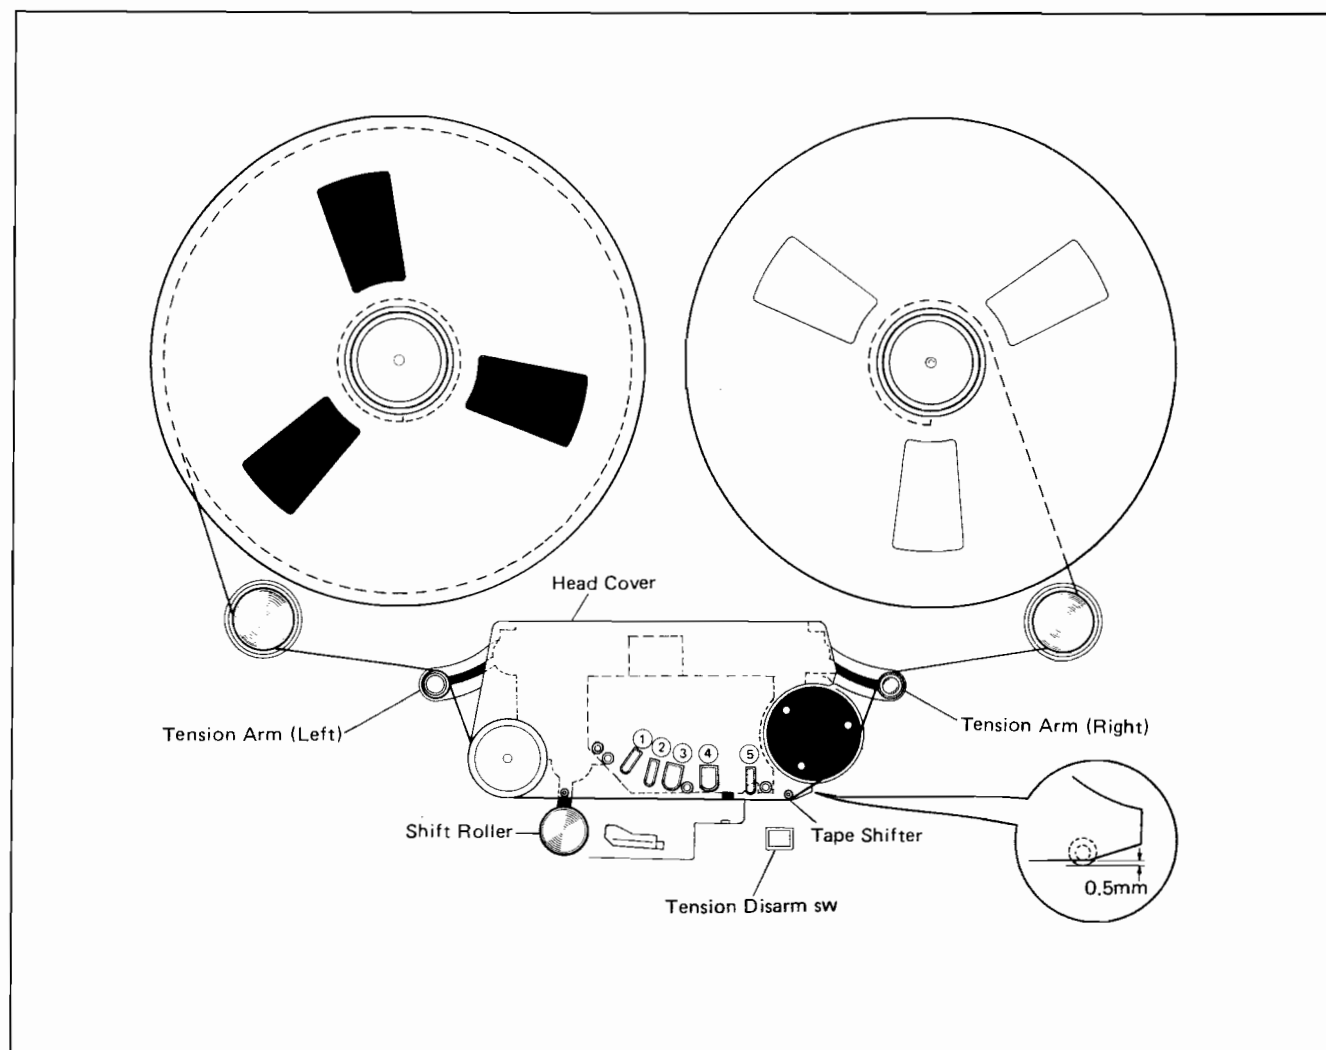

Fig. 5-11-2.
- When the tape is loaded and tension arm is turned off, the tape shifter should appear from under the head cover by 0.5 mm. (Refer to Fig. 5-11-2.)